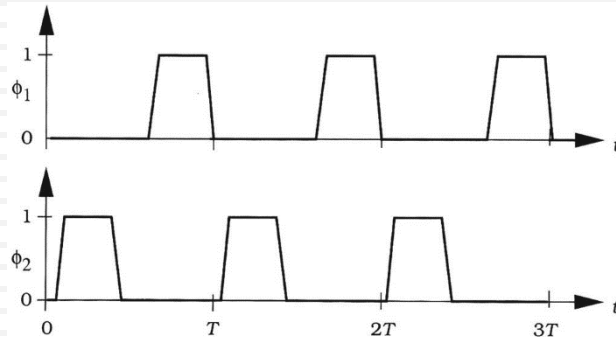

Figure 15.17 Dual non-overlapping clocks
- In this technique, two distinct non-overlapping clocks ϕ_1 and ϕ_2 are used such that (Fig. 15.17 and 15.18)